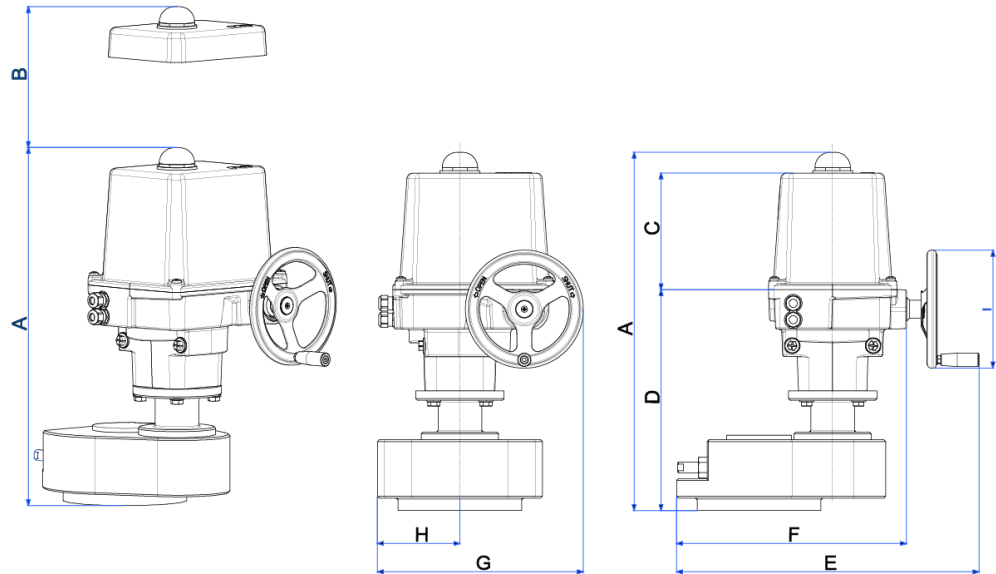

Figure 1: Outside dimensions
- When installing the actuators, leave enough space to permit cover removal (Figure 1).